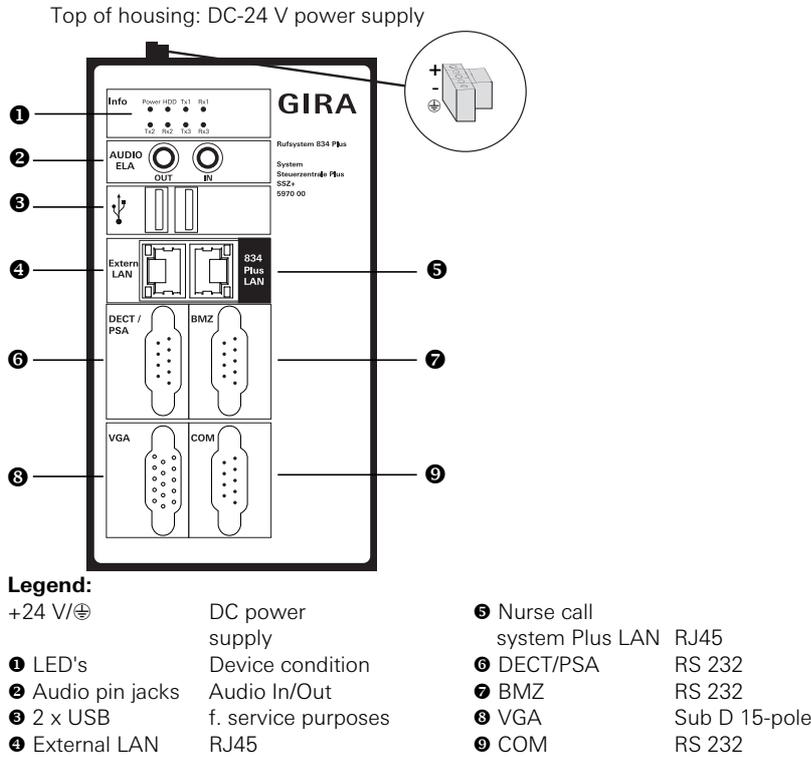

Figure 3.29: Connections of the system central control unit
To connect the ward control centre to an existing (hospital) network, the "External LAN" connection can be configured in the configuration assistant via the menu item **Administration/Set up network access** (Figure 3.29 (4)).